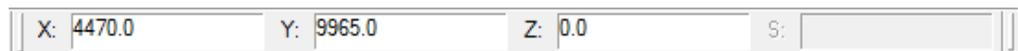

Figure 4 XYZS Bar
3. In the *XYZS Bar*, enter “4470” for *X* and “9965” for *Y* (Figure 4). This will move the point to those coordinates.